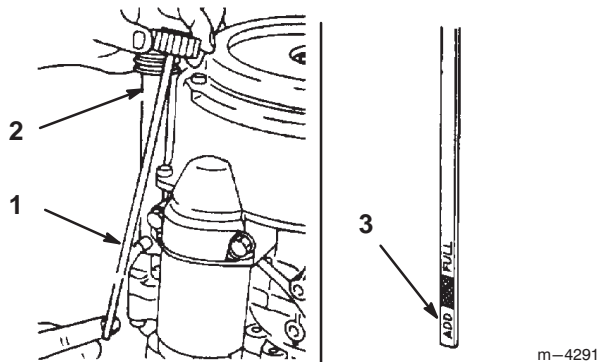

Figure 38
2. Clean around the oil dipstick (Fig. 38) so dirt cannot fall into the filler hole and damage the engine.
3. Unscrew the oil dipstick and wipe the end clean (Fig. 38).
4. Slide the oil dipstick fully into the filler tube, do not thread onto tube (Fig. 38). Pull the dipstick out and look at the end. If oil level is low, slowly pour only enough oil into the filler tube to raise the level to the "FULL" mark.
6. Slowly pour approximately 80% of the specified amount of oil, page 30, into the filler tube (Fig. 38). Now check the oil level; refer to Checking Oil Level, page 31. Slowly add additional oil to bring to "FULL" mark on dipstick.